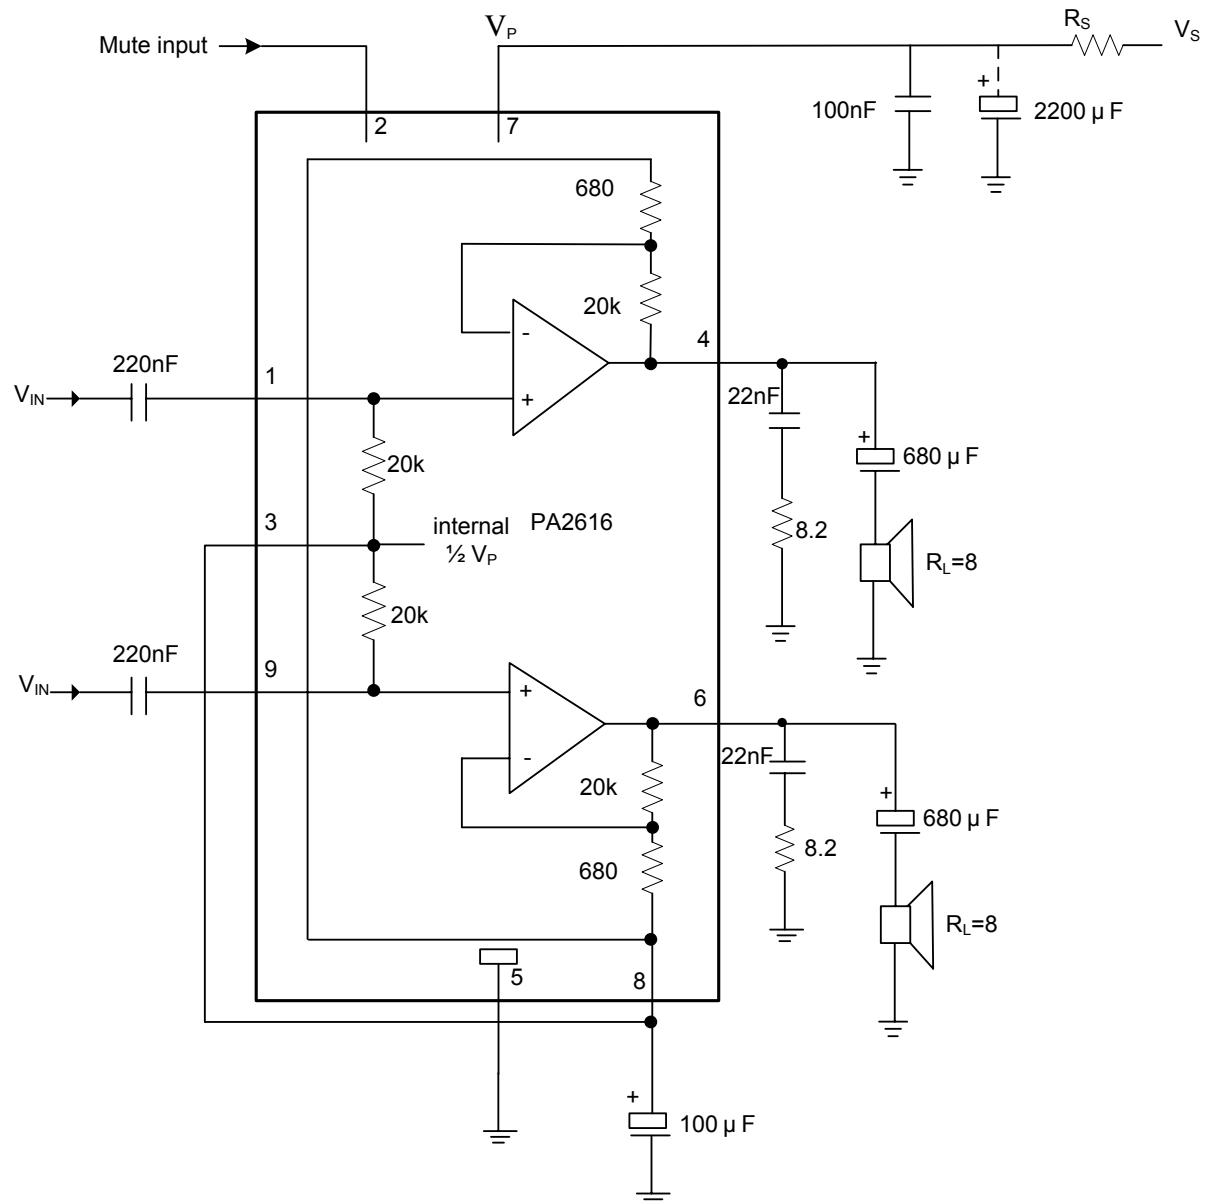

Fig. 2 Test and Application Circuit with Asymmetrical Power Supply
6.  $V_P = 24 \text{ V}$ ;  $R_L = 8 \Omega$ ;  $T_a = 25^\circ\text{C}$ ;  $f = 1 \text{ kHz}$ ; asymmetrical power supply  $I_{MUTE} < 30 \mu\text{A}$ . See Fig.2